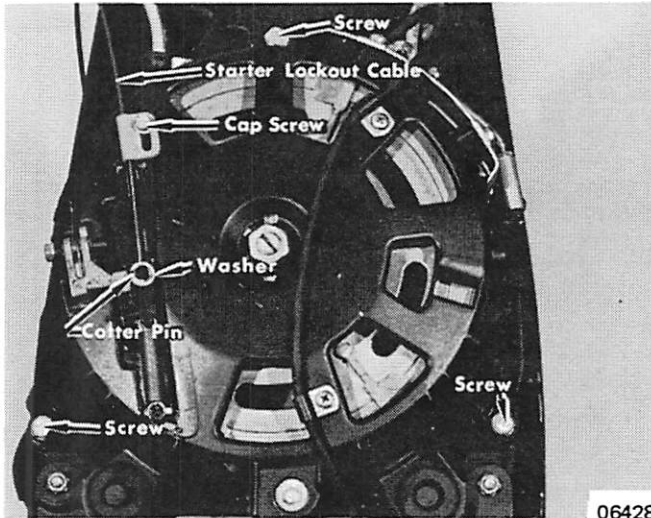

Figure 1. Removing Lockout
- a. Remove cotter pin washer and cap screw from neutral starter lockout cable and remove cable from rewind starter (Figure 1)